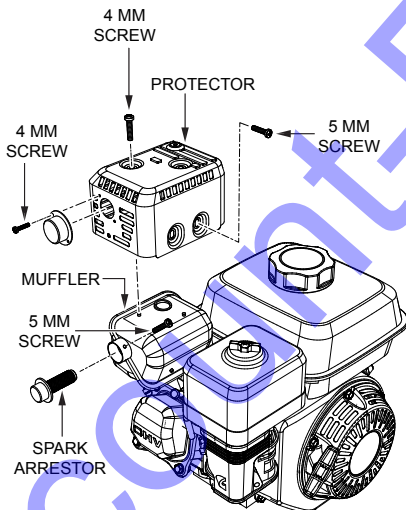

Figure 33. Spark Arrester Removal
1. Remove the 4 mm screws (3) from the exhaust deflector, then remove the deflector (Figure 33).
2. Remove the 5 mm screws (4) from the muffler protector, then remove the muffler protector.